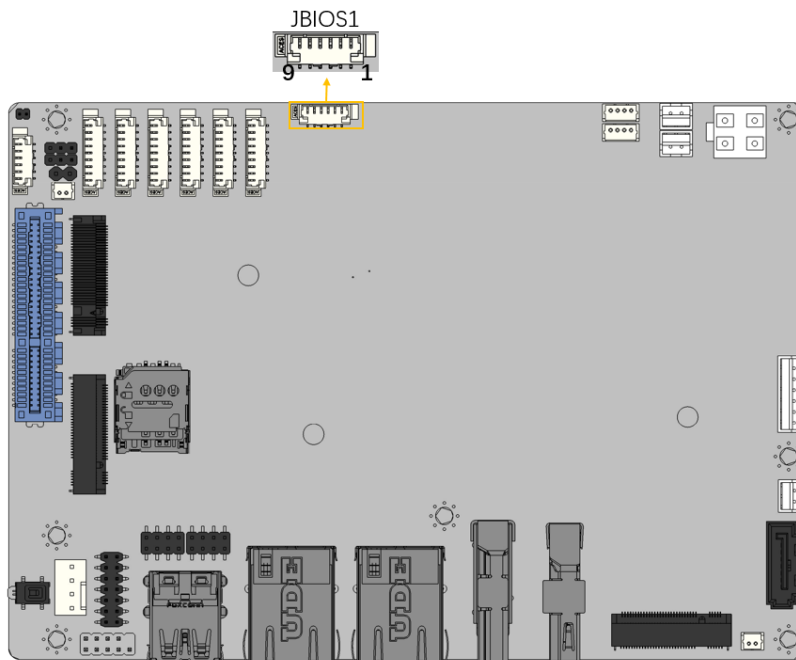

Figure 3-22: Flash SPI ROM Connector Location
- CN Location:** See **Figure 3-22**